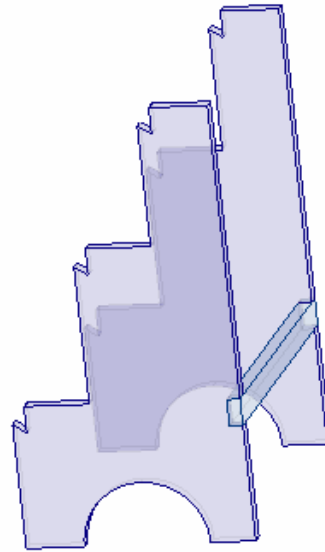

Figure 21. Assembly with sides and back piece.
42. Figure 21 shows what the assembly should look like at this point.